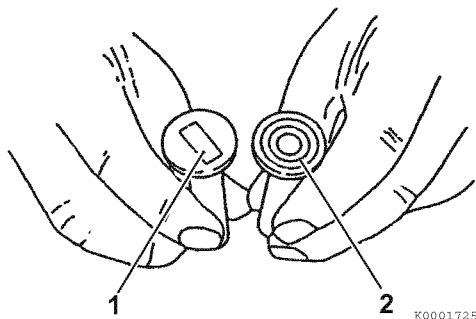

**Figure 6-119**
1. Measure the wrist pin bushing bore using a bore gauge (**Figure 6-119, (1)**). Replace the bushing if not within specifications. If the bushing has been removed, measure the inside diameter of the connecting rod small end (**Figure 6-119, (2)**). See *Connecting Rod* on page 6-18 for specifications.